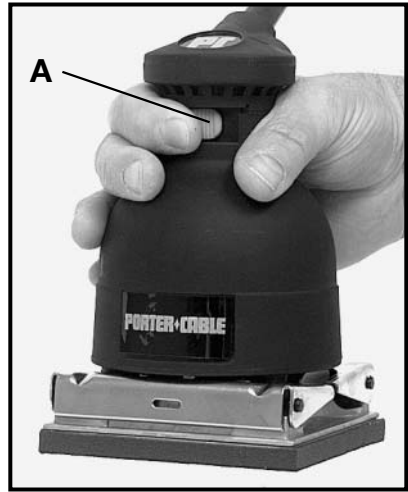

Fig. 3
1. **CAUTION:** Make sure switch (A), Fig. 3, is in "OFF" position.
4. While holding sander firmly and off of work surface, slide switch (A), Fig. 3, to the “ON” position.
6. When you are finished sanding, lift sander up off work and slide switch (A), Fig. 3, to the “OFF” position to stop sander.
The Porter-Cable Finishing Sander has been designed for one-hand operation (Fig. 3). Because it is light in weight, vibration-free and perfectly balanced, the sander can be easily guided over the work surface with one hand. The normal weight of the machine is sufficient for efficient sanding. Do not put additional pressure on the machine. This would only slow down the speed of the pad, reducing the sanding efficiency and put an additional burden on the motor. In addition, it might cause the sander to jump on the work. Let the sander do the work.